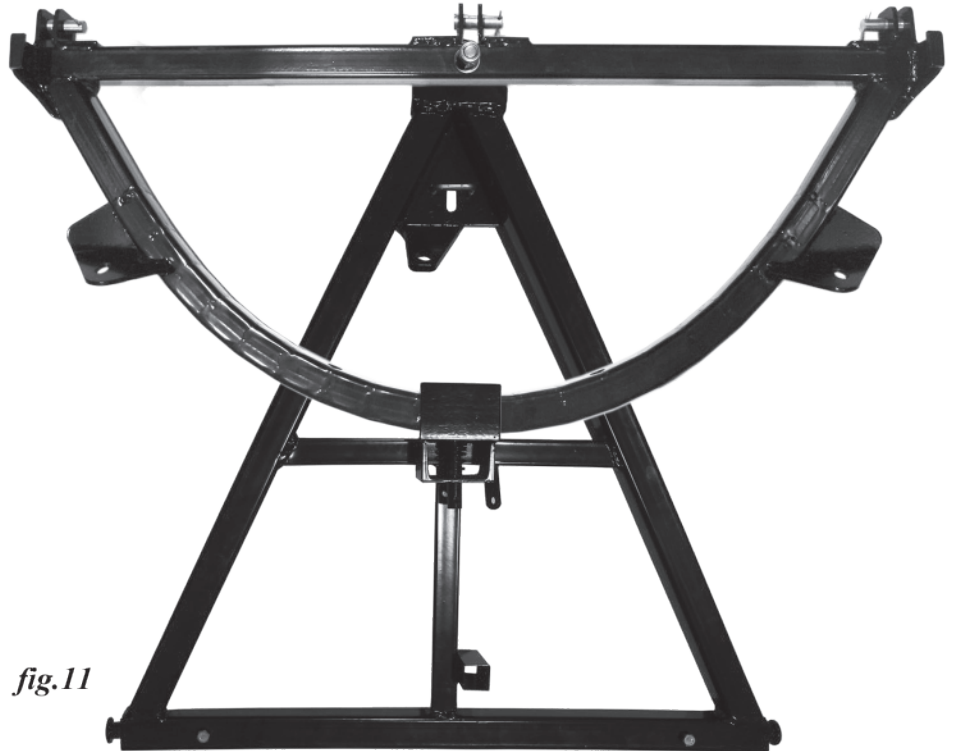

fig.11
7. Assemble the D frame (fig.9) on top of the A frame (fig. 10). With the rounded portion of the D frame held so it slides under the angle bracket (a, fig.10) on top of the A frame and the centre hole engages the angle locking pin (12, fig.10), connect the two frames using the pivot bolt. This is a 75 mm (2.95") M16 gr.8 hex head bolt with a 16 mm washer (8, fig.10), inserted from below the hole in the apex of the "A" of the A frame, through the pivot bolt sleeve. It goes up through a hole in the centre of the straight side of the "D" in the D frame. Hold this in place with an M16 Nylock nut. (fig.11, below)